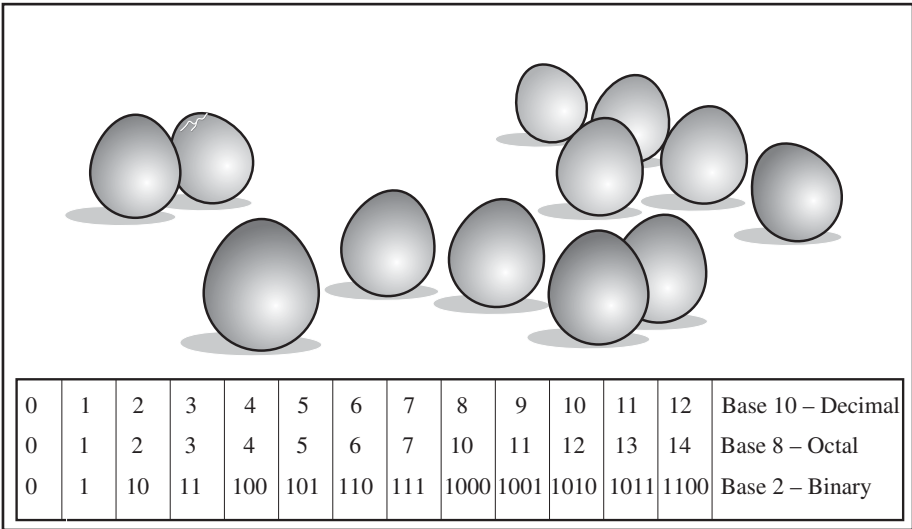

FIGURE 13.1
The eggs in Figure 13.1 are commonly represented by the decimal number 12 – 1 block of 10 with 2 left over. In an octal (8) system, these